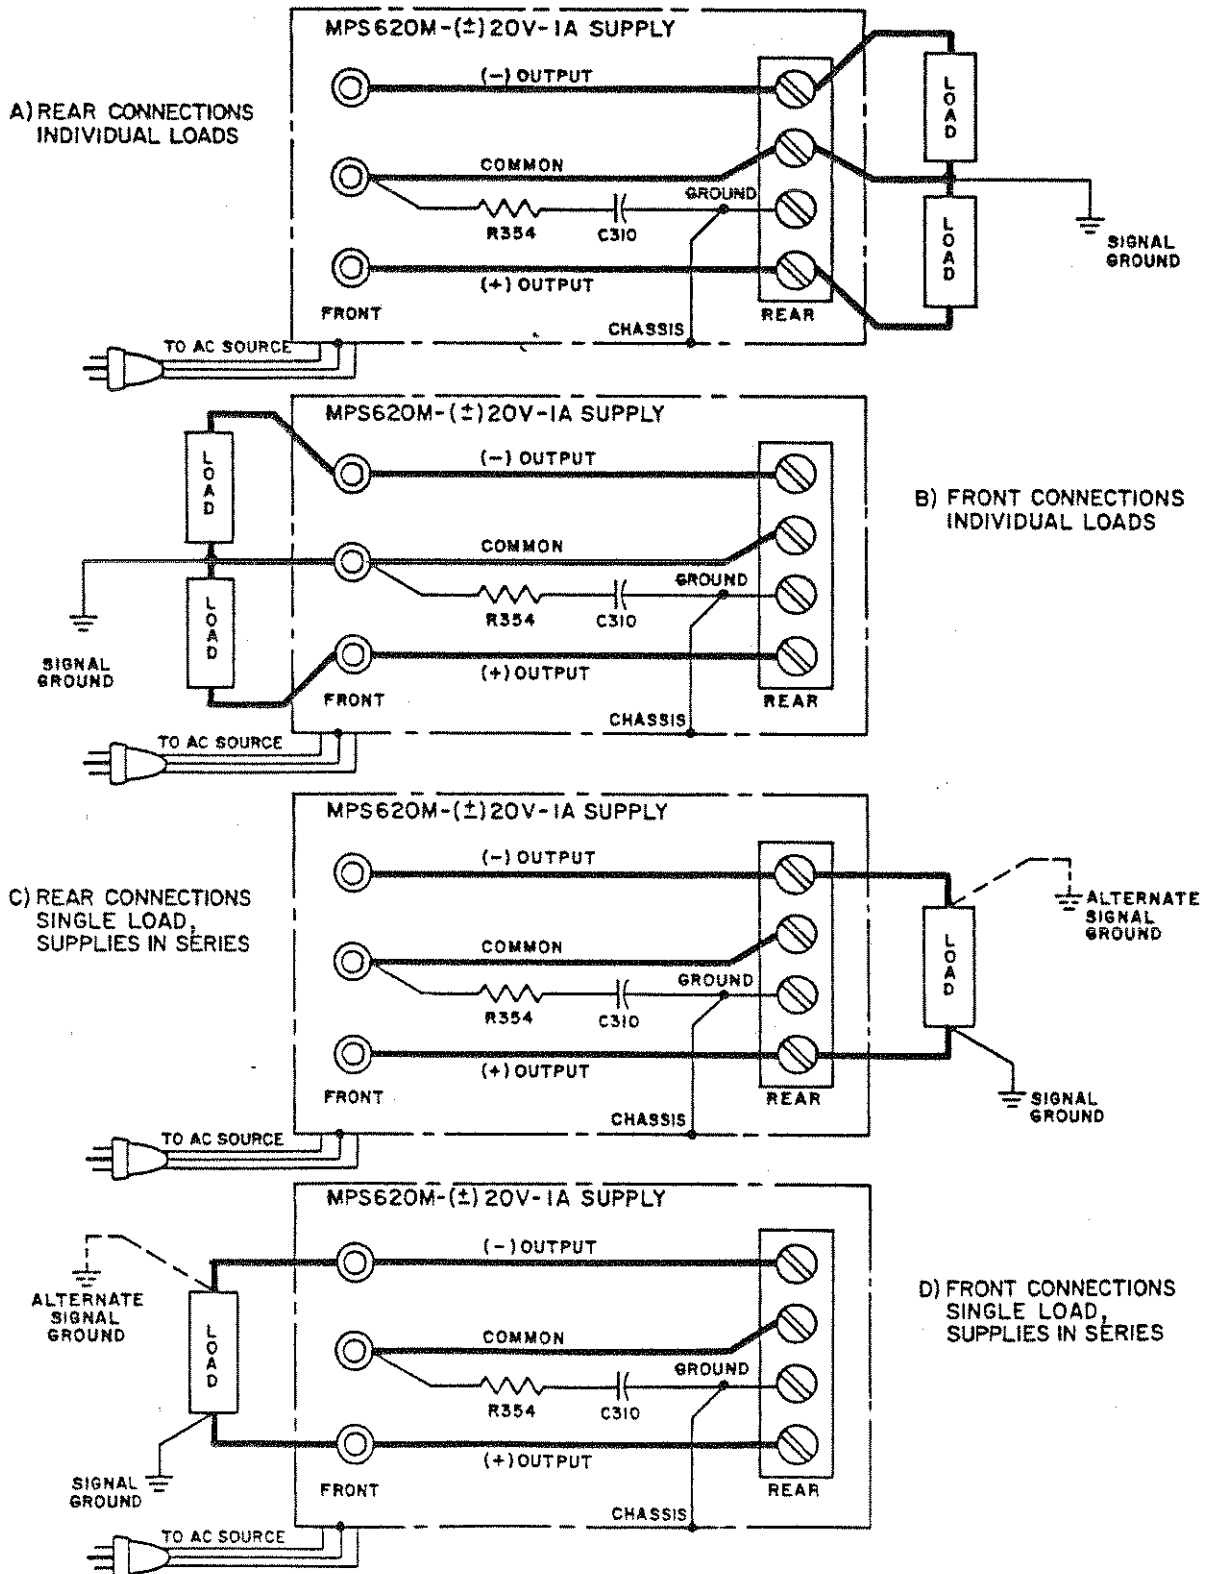

FIG. 3-2 LOAD CONNECTIONS, ( $\pm$ ) 20V, 1A SUPPLY.
**3-16 LOAD CONNECTION, ( $\pm$ ) 20V - 1A SUPPLY (SEE FIG. 3-2)**